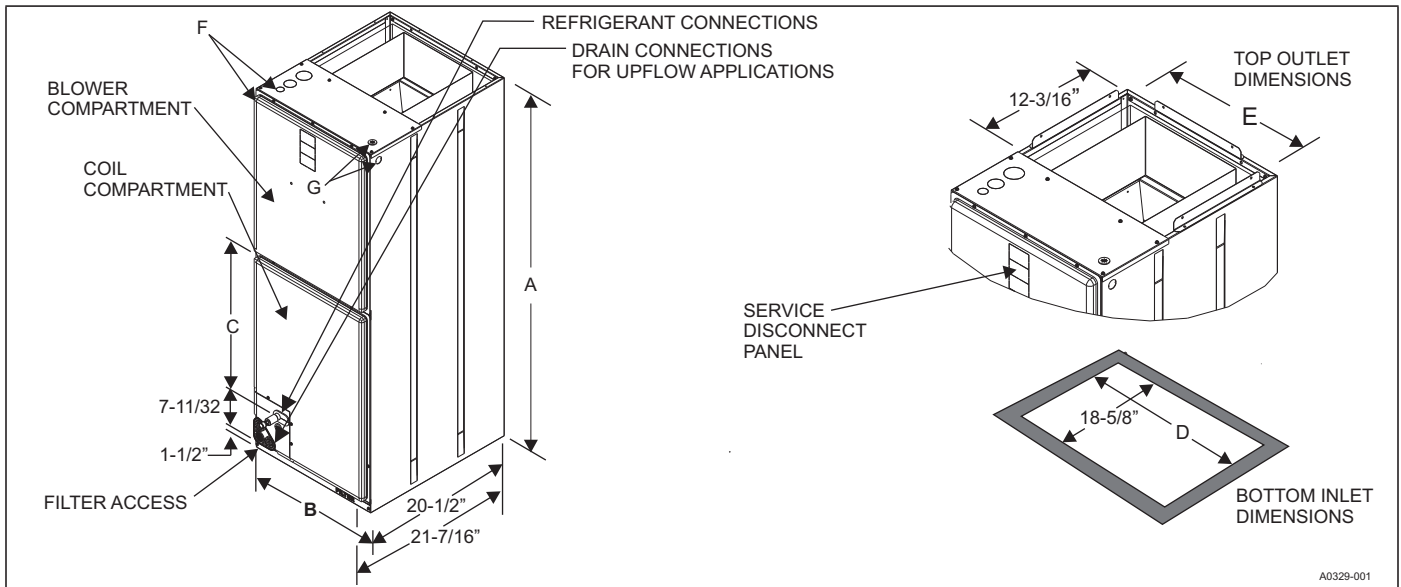

FIGURE 3: Dimensions & Duct Connection Dimensions
6. The unit rating plate displays the air handler model number. The unit dimensions for the supply air plenum are provided in Figure 3 and Table 1 of this Instruction Manual. The plenum must be installed according to the instructions.
- The size of the unit should be based on an acceptable heat loss or gain calculation for the structure. The ACCA – Manual J or other approved methods may be used. Reference Figure 3 & Table 1.